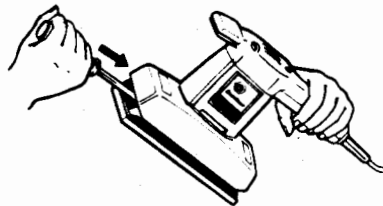
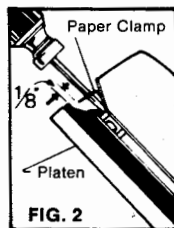

FIG. 1
FIG. 2
2. Position Sander as shown in Figure 1. Insert screwdriver into slot and **firmly** push screwdriver down until paper clamp is opened about 1/8" (Figure 2). **It is neither necessary nor desirable to use the screwdriver like a lever—push it straight into the slot to wedge open the clamp. Then let go.**